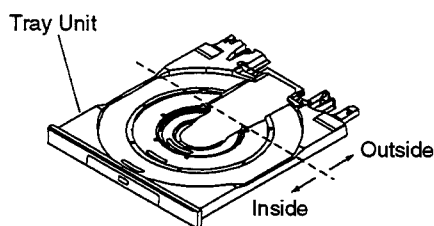

Fig. 1-4
- (1) Make sure that the Carriage Assy lens stops at a position outside the broken line indicated in Fig. 1-4.
- (2) If the lens remains in a position inside the broken line in Fig. 1-4, locate the lens in a position outside the broken line in the following manner: Insert your hand from the lower-left side of the Tray Unit, and turn the Gear Pulley of the Loading Mechanism Unit counterclockwise until it stops so that the Servo Mechanism rises. Then slowly turn the Worm of the Carriage Assy counterclockwise so that the Carriage Assy moves backward and the Carriage Assy lens moves to a position outside the broken line in Fig. 1-4. (Without this procedure, the unit will be in CD Tray Open mode.)